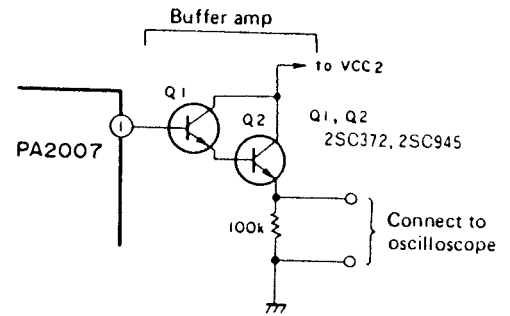

Fig. 6-9 Connect buffer amp
2. Connect a buffer amp to pin 1 of IC PA2007, and connect the output to a oscilloscope (Fig. 6-9).